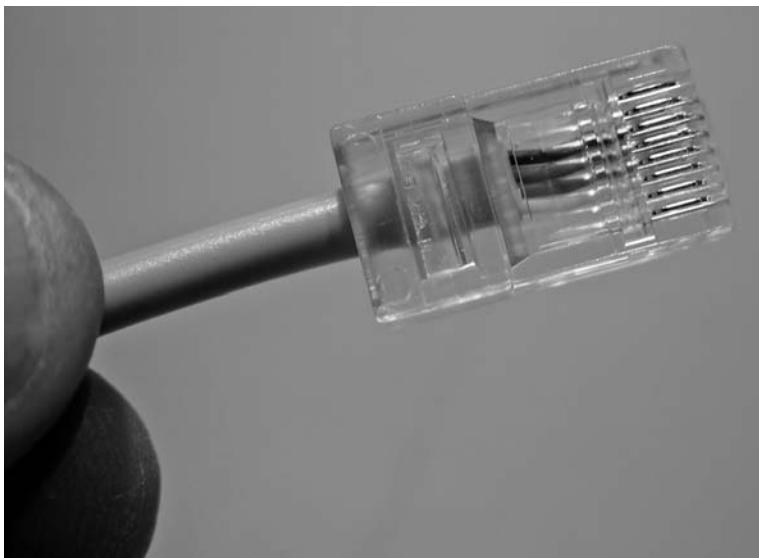

FIGURE 5-9: RJ-45 Crimped to twisted pair phone cable.
7. Inspect your work. It should look like Figure 5-9.